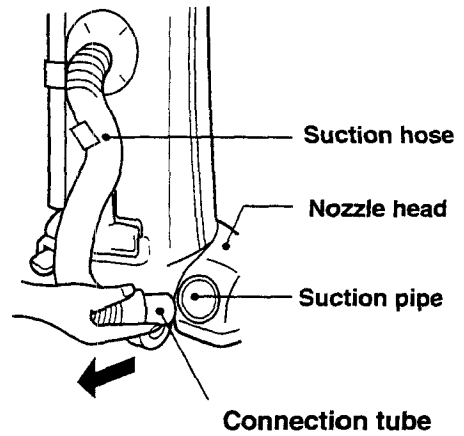

Fig. 20
- 2** Hold the connection tube of the suction hose in one hand and the handle in the other. Then pull out the connection tube from the suction pipe of the nozzle head.(Fig. 20)